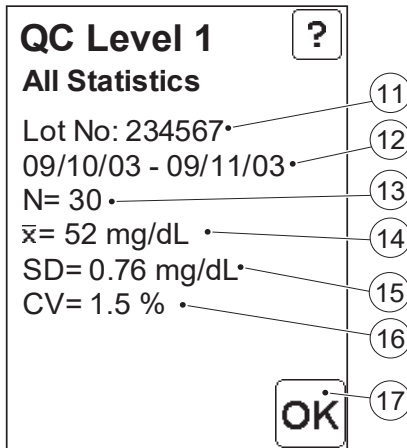

FIGURE 6-13
- h) To continue to the statistics image, *FIGURE 6-13*, press the Confirm button (9).